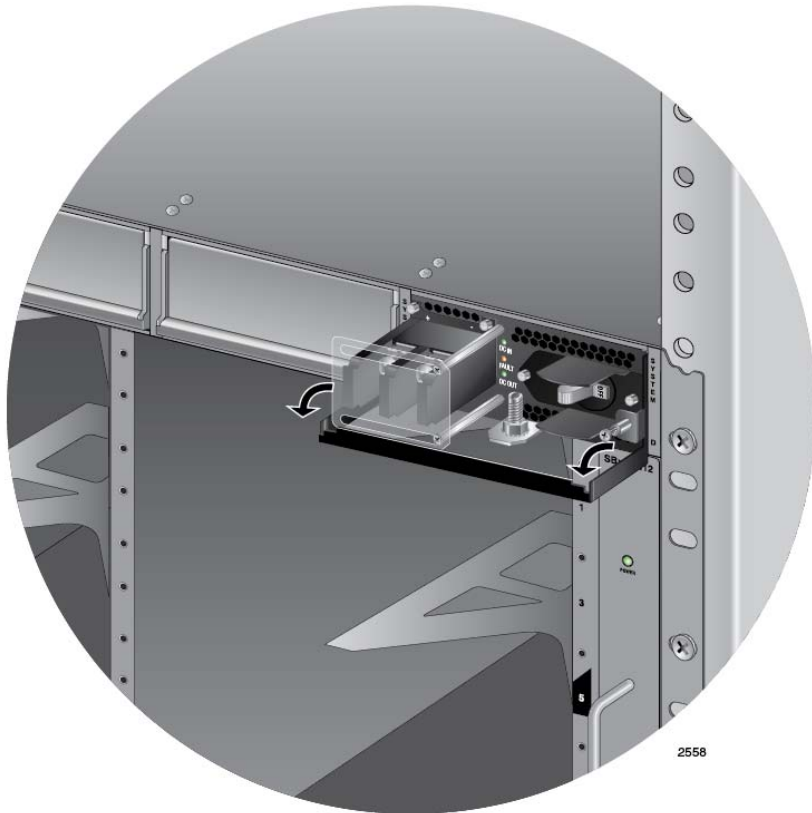

Figure 68. Locking the Handle on the AT-SBxPWRSYS1 Power Supply
7. Lower the locking handle of the power supply module to secure the module in the slot, as shown in Figure 68.